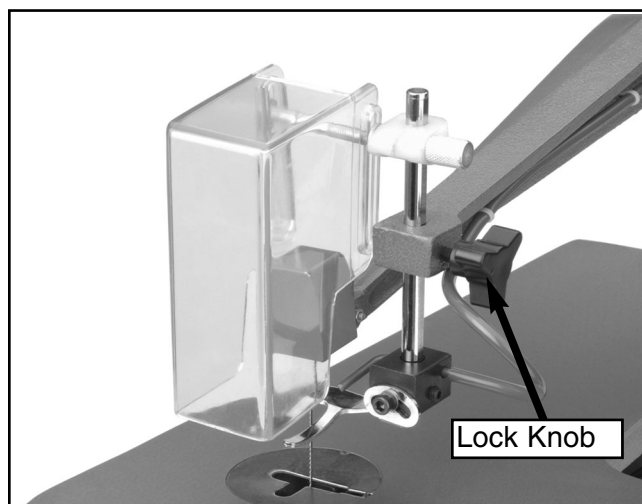

Figure 7. Blade guard adjustment.
4. Adjust the blade guard so that it rides just above the workpiece, and tighten the lock knob shown in **Figure 7**.